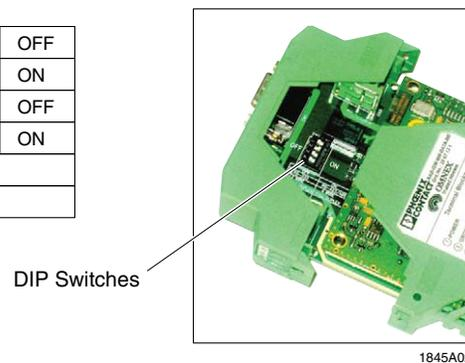

Figure 3-5. DIP Switch Settings
- Using a slotted screwdriver, adjust the DIP switches according to the labels next to them. See Figure 3-5.